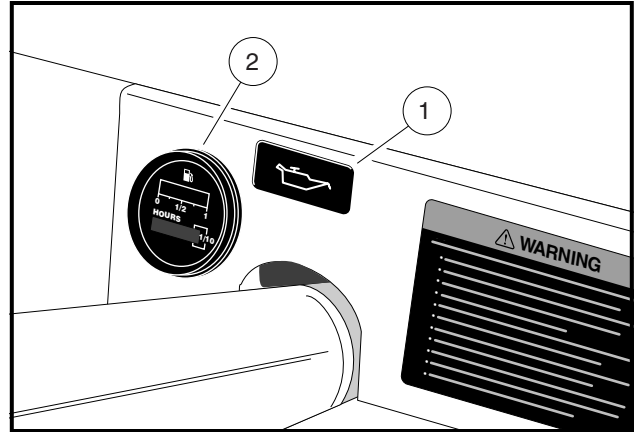

Figure 9 Oil Light
The vehicle is equipped with a low oil warning light (1), located on the dash panel just above the steering column (**Figure 9**). If the warning light comes on, oil should be checked and added to the engine as necessary before continuing to use the vehicle. The vehicle should never be driven when the low oil warning light remains on. If the warning light goes on and off, the vehicle may be driven, but oil should be added at the first opportunity. If the oil level is correct and the warning light stays on, have a trained technician check the vehicle. **See following CAUTION.**
The vehicle is equipped with a fuel gauge/hour meter (2), located on the dash panel (**Figure 9**). The fuel gauge allows the operator to monitor the fuel level in the vehicle. The hour meter should be used by the trained technician to track vehicle usage and determine when periodic service procedures are required. **See Periodic Service Schedule on page 22.**